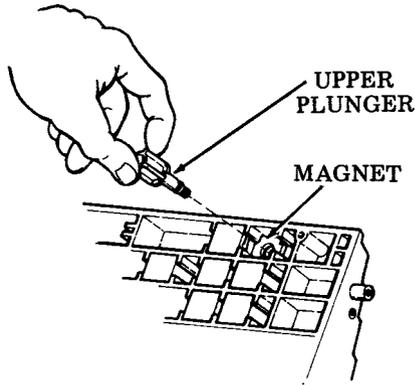

Fig. 45—Upper Plunger Removal
- (c) Slide the upper plunger out through the bottom of keyswitch housing (Fig. 45).